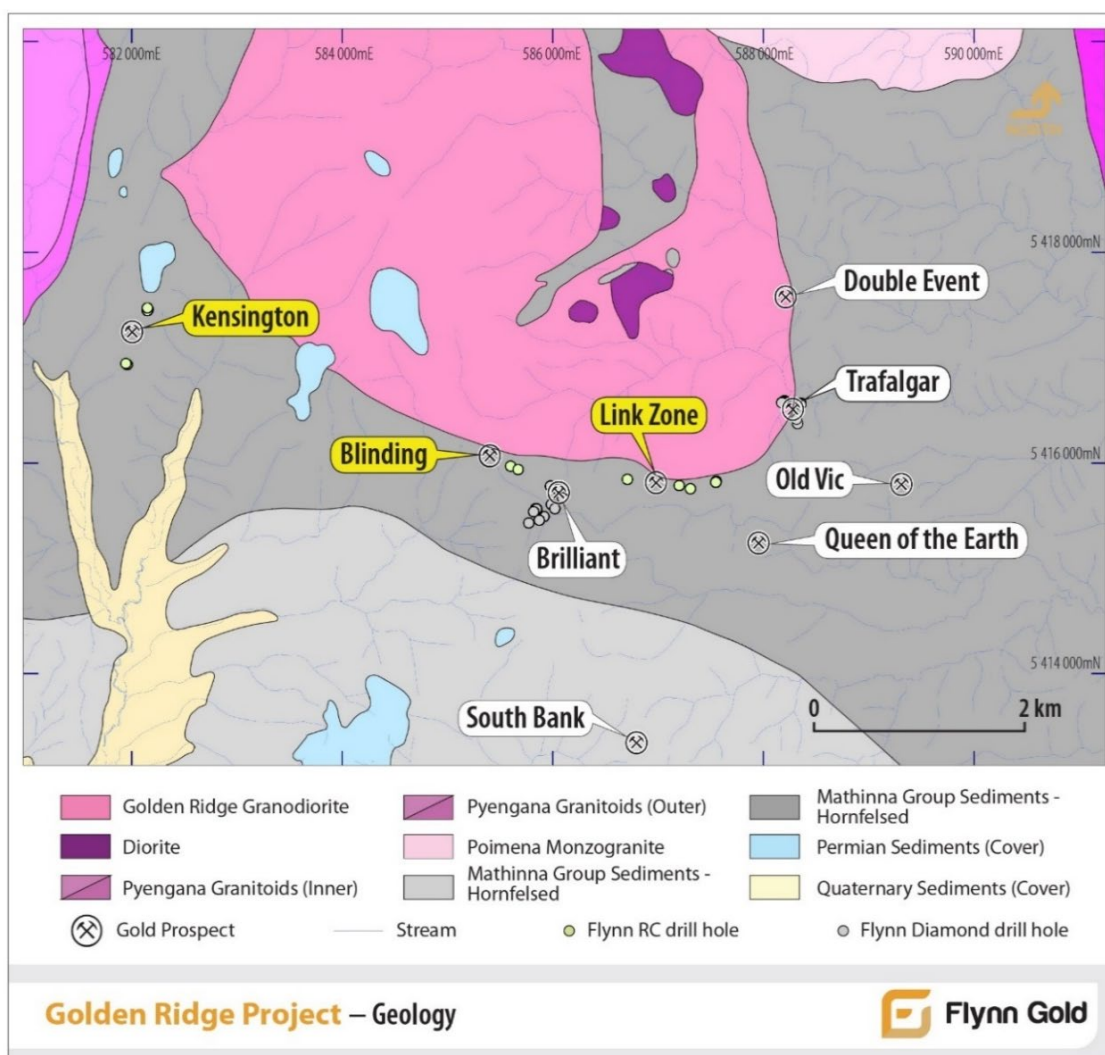

Figure 1: Flynn’s Golden Ridge Project, showing prospect areas and highlighting the three areas of RC drilling.
The scout reverse circulation (RC) drilling program comprised 12 RC drillholes for a total of 1,455m (average hole depth was 121m). The program was designed as reconnaissance scout drilling to test multiple previously undrilled priority target areas identified by the Company at the Kensington, Blinding and Link Zone Prospects (Figure 1). Laboratory assays have been received for all 12 RC holes. Collar details and significant mineralised intervals are contained in Tables 1 and 3.